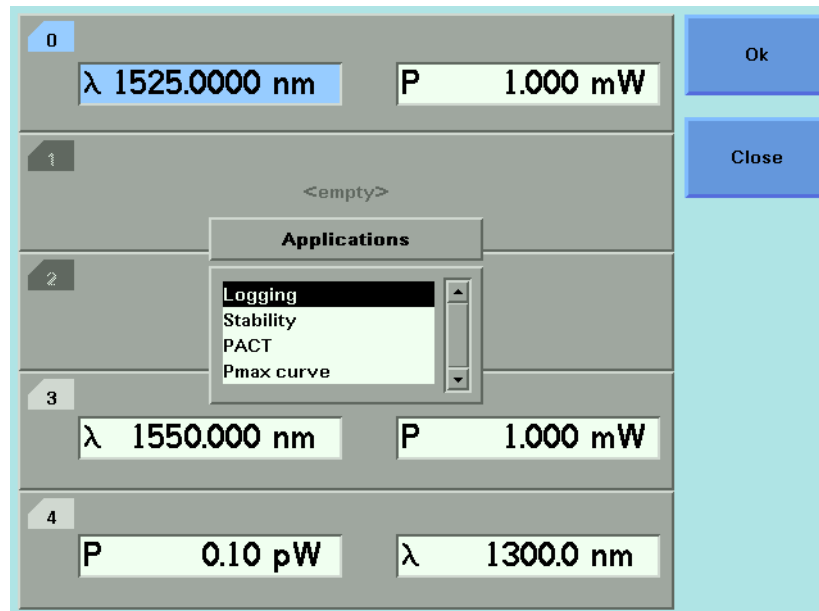

Figure 144 The Application Menu
- 1 Press the *Appl* hardkey. The Applications menu, as shown in Figure 144, appears.